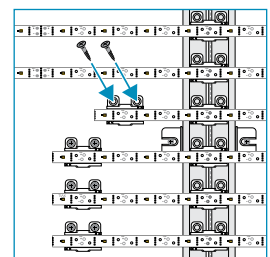

Figure 8
3. Ensure LED bar is properly aligned and insert mechanical fasteners through the mounting holes at the top of the Deep Bar Retention Clip (Figure 8).